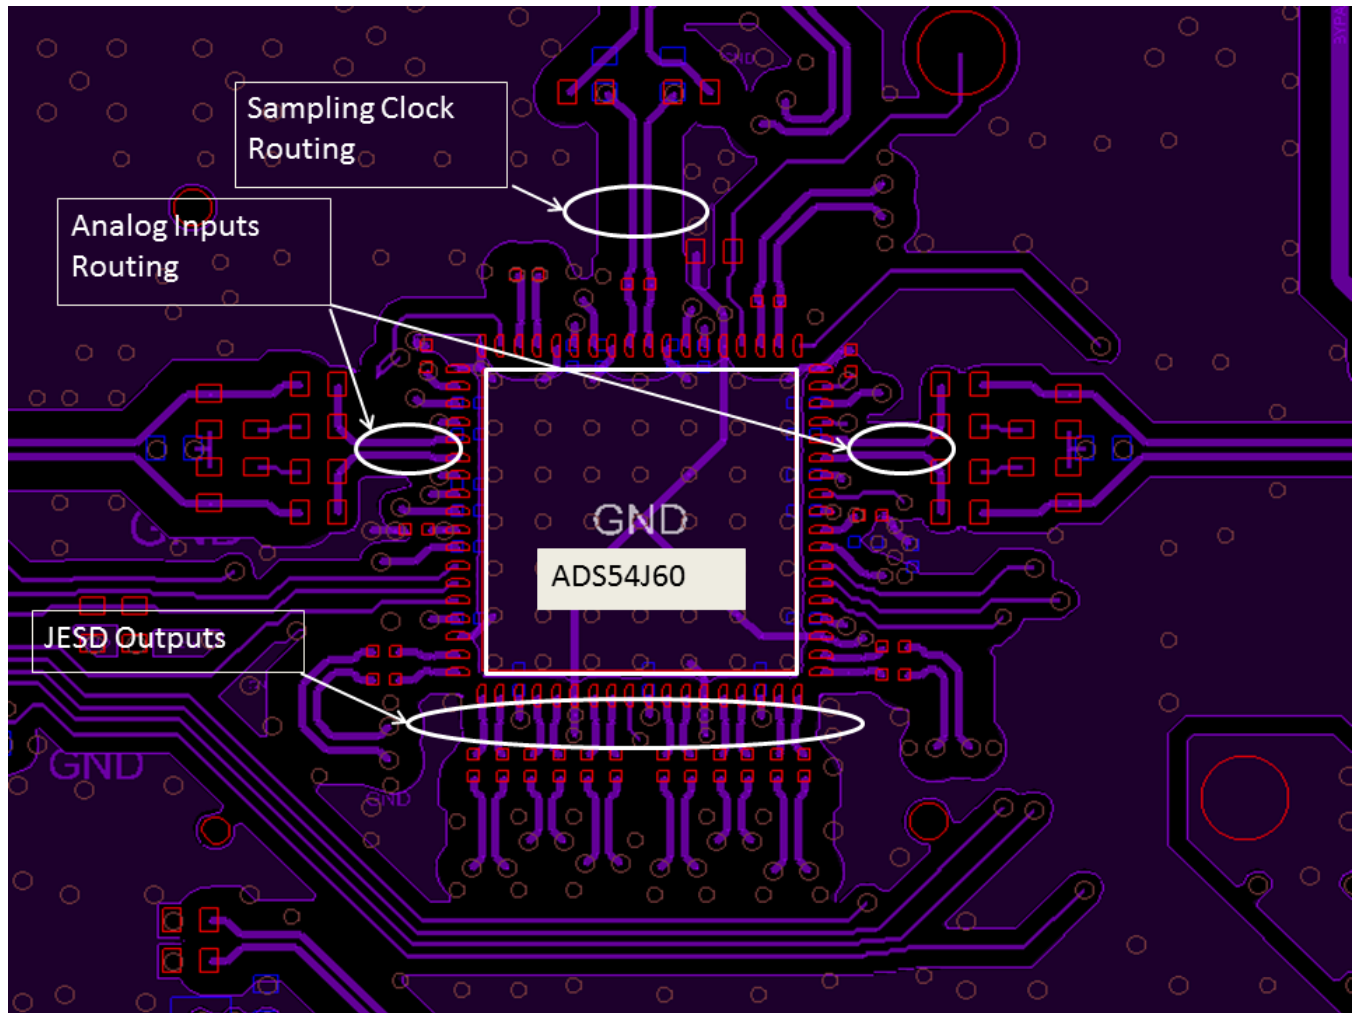

Figure 131. ADS54J60 EVM layout
The device evaluation module (EVM) layout can be used as a reference layout to obtain the best performance. A layout diagram of the EVM top layer is provided in Figure 131. Complete layout of EVM is available at ADS54J60's EVM folder. Some important points to remember during board layout are:
- Analog inputs are located on opposite sides of the device pinout to ensure minimum crosstalk on the package level. To minimize crosstalk onboard, the analog inputs must exit the pinout in opposite directions, as illustrated in the reference layout of Figure 131 as much as possible.
- In the device pinout, the sampling clock is located on a side perpendicular to the analog inputs in order to minimize coupling between them. This configuration is also maintained on the reference layout of Figure 131 as much as possible.